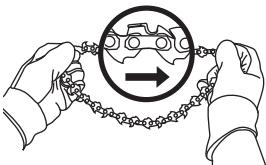

Fig. 9
- Loop the saw chain over the drive sprocket with the cutting edges of the chain pointing in the direction of rotation (Fig. 9).